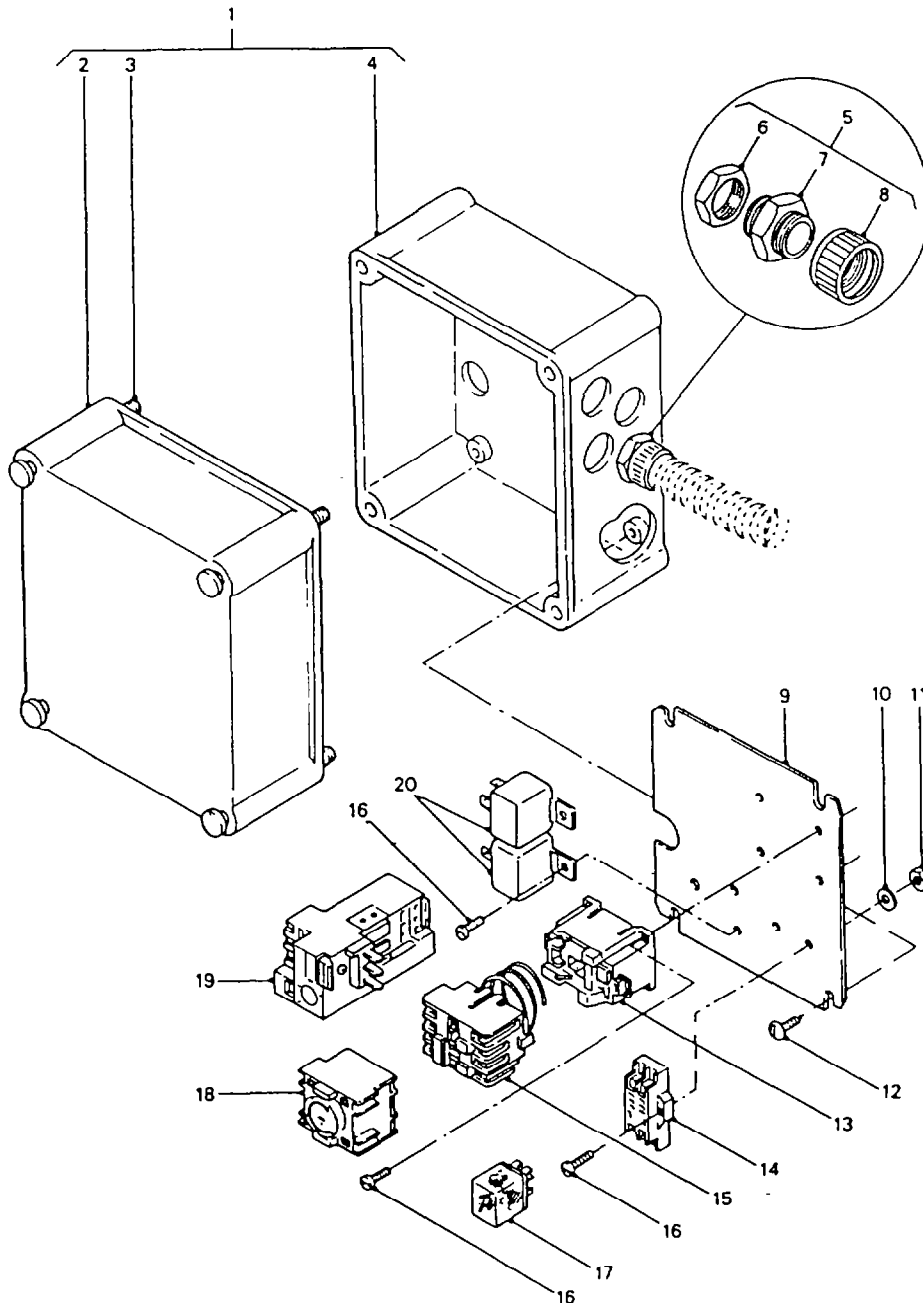

Figure 7 - Air-Conditioner and Thermostat Switch Relay Box
- d. Identify the power box (Figure 7, Item 1) and remove the cover, then slide out the power divider plate.
- e. Slide the timer (Figure 7, Item 18) off the contactor by depressing the locking tongue at the front face.
- f. Unscrew overload mechanism from C1 contacts and retain (Figure 7, Item 19).
- h. Disconnect all wires and fixing screws from 'C1' contactor and remove from the control box (Figure 7, Item 15, 13).